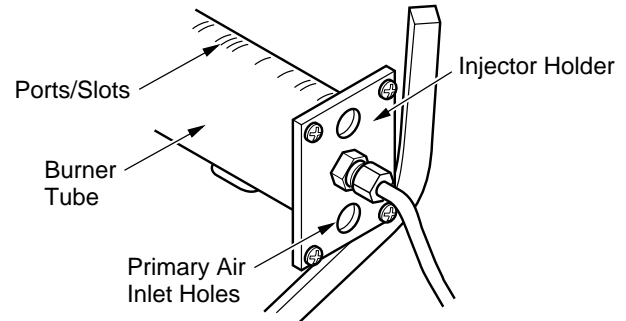

Figure 38 - Injector Holder On Outlet Burner Tube
2. Inspect burner, pilot, and primary air inlet holes on injector holder for dust and dirt (see Figure 38).